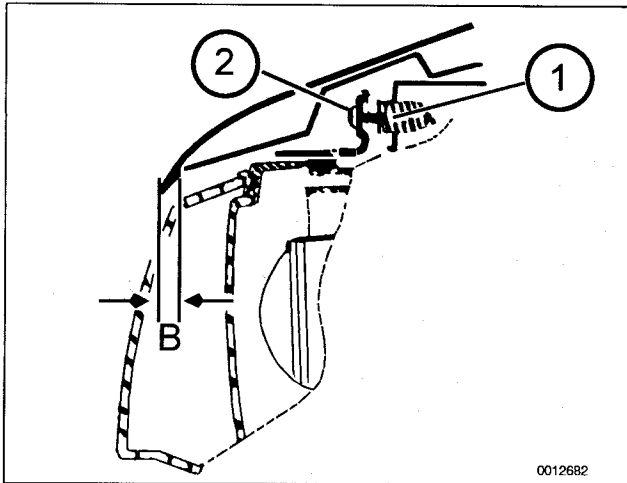

Fig. 6. Measure gap **B** (1.5 mm) between front of hood and headlight cover. Note horizontal headlight adjusting nut (1) and retaining screw (2).
9. Clearance between hood and headlight cover should be 1.5 mm. Adjust by turning upper headlight adjusting nuts, then tighten down center screw. See Fig. 6.